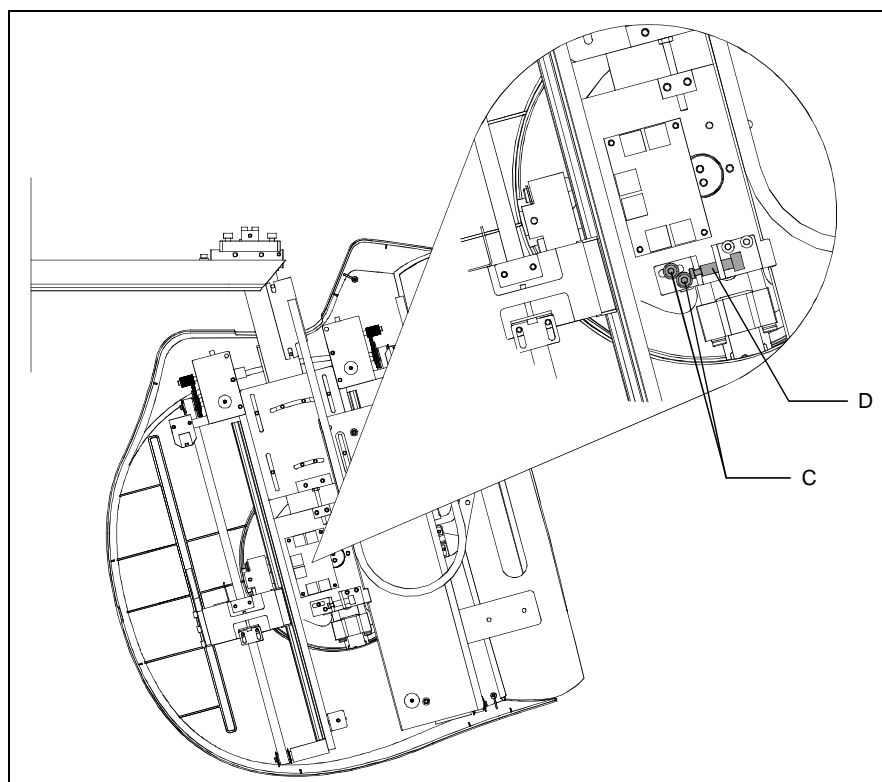

Figure 7-9
- 23.** To adjust the horizontally alignment between the two rings, loose the two screws "C" (Figure 7-9) and rotate the ear rings support group acting on screw "D". Once the aligned position has been reached (test exposures are required), tighten screws "C".